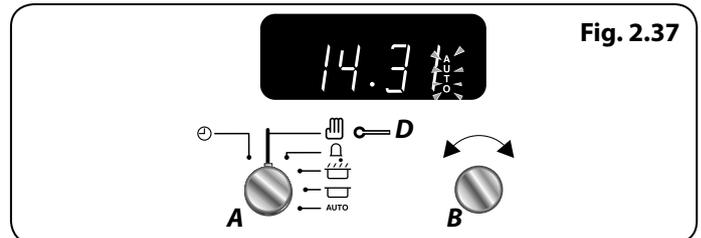

Fig. 2.37
5. Once the specified time has elapsed it will emit an alarm and the Multifunction Oven will stop working. The 'Cooking' symbol on the display will disappear and the word 'AUTO' will flash (**Fig. 2.37**).
6. When you return, turn the **Timer (A)** knob to the **Manual (D)** setting to return to manual cooking and reset the Multifunction Oven modes once cooking is complete (**Fig. 2.37**).
To cancel any automatic settings turn the **Timer (A)** knob to the **Clock (C)** setting and release (**Fig. 2.37**).